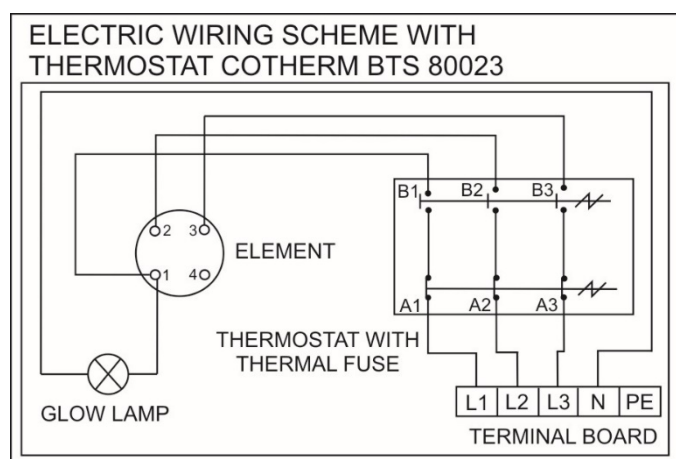

Figure 6
- The electric wiring scheme is attached to the water heater on the side of the electric installation guard (Figure 6)